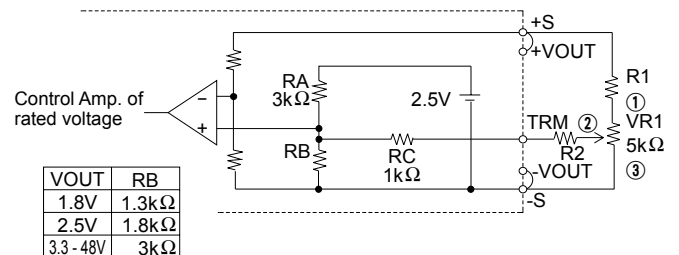

Fig.4.5 Connecting External Parts
- Output voltage can be adjusted by connecting an external potentiometer (VR1) and resistors (R1 and R2) as shown in Fig. 4.5. Output voltage will increase if the resistance between ① and ② is reduced by turning the potentiometer clockwise. Recommended values for external components are shown in Table 4.2. Consult us if the power module is used in a different configuration.